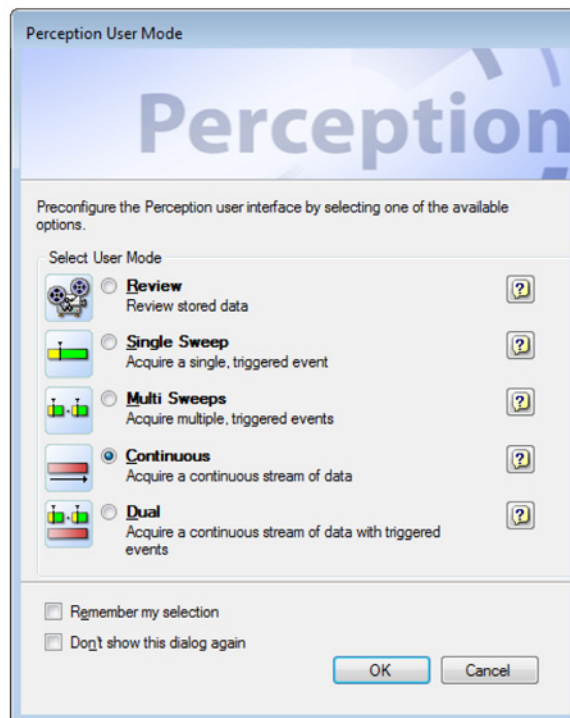

Figure 3.1: Perception User Mode dialog
- 2 The user mode selection dialog appears (see Figure 3.1):